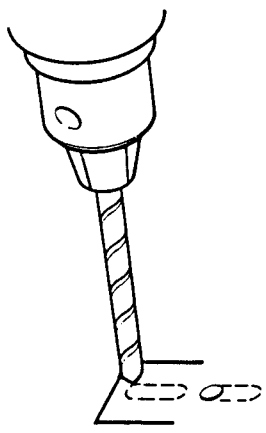

Fig. 9
- Finally drill two 8mm (5/16") clearance holes for the clevis fixing bolts at the lower end of each elongated hole position (Fig. 9). This allows the belt to be subsequently tightened.